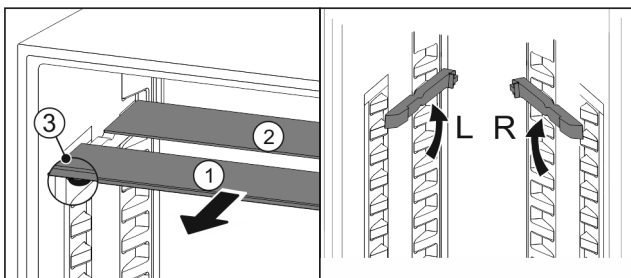

Fig. 26
- ▶ Pull the glass panels out Fig. 26 (1) from the front, one at a time.
- ▷ The glass panel Fig. 26 (1) and trim strip are at the front.
- ▷ The stops Fig. 26 (3) point down.